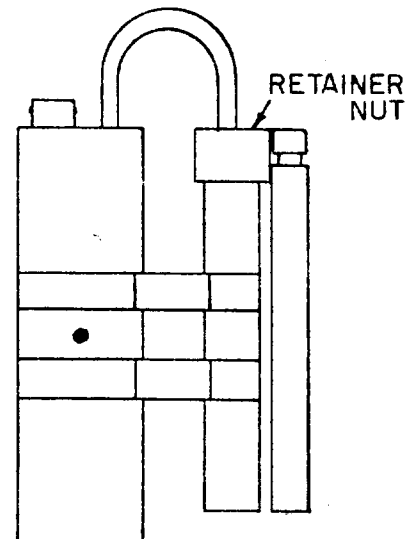

FIGURE 4-5. POSITION .5 CHECK.
STEP 9. Turn the range switch to the .5 position. Place the test sample parallel with the small cylinder on the side directly opposite the larger cylinder with the active end even with the top of the retainer nut, as shown in Figure 4-5. The meter should read between .25 and .4.